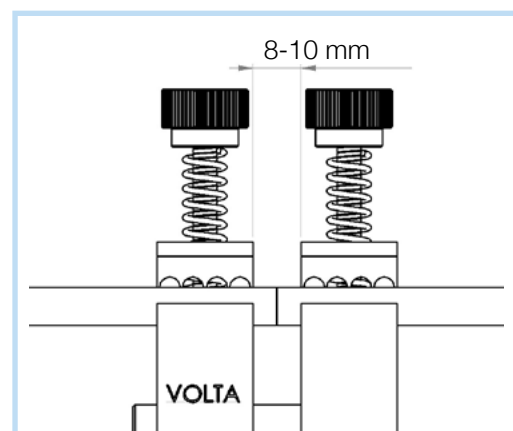

Fig. 8
2. Using the clamping nut (7), adjust the pliers, leaving a distance of $8 \div 10$ mm between the platform (3) and the rider(8) (Fig. 8).
3. Push to open the clamp (6) and place the belt edges so that the ends are touching approximately at the centre of the pliers gap (Fig. 8).